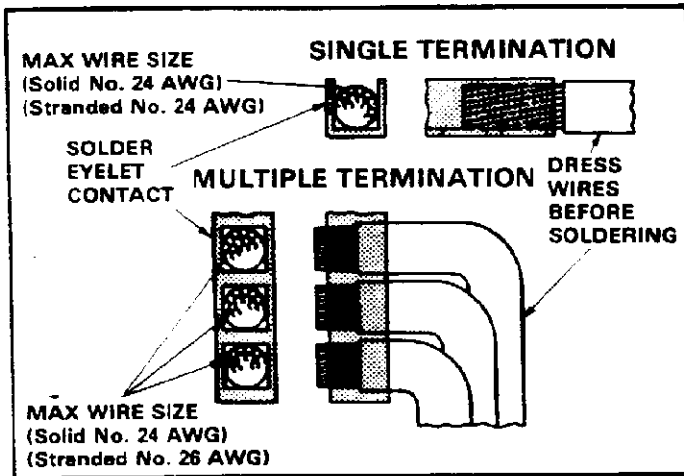

Fig. 8
These assemblies are designed to be rack- or panel-mounted and will accommodate either a single- or multiple-wire termination. For single terminations, each wire is individually placed in the contact channel and soldered. For multiple terminations, each wire is placed in an eyelet and the wire is soldered to the contact. See Figure 8.
3. Dress the wires in the proper direction. This will prevent bending of the contacts after they are soldered. See Figure 8.
4. Position the conductor in the contact channel (or eyelet) and solder it. See Figure 8.